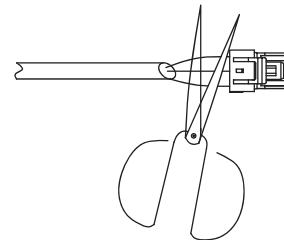

Fig. 26 —Shearing Outdoor Connector
1. Cut the connector on the outdoor unit side (see Fig. 26).